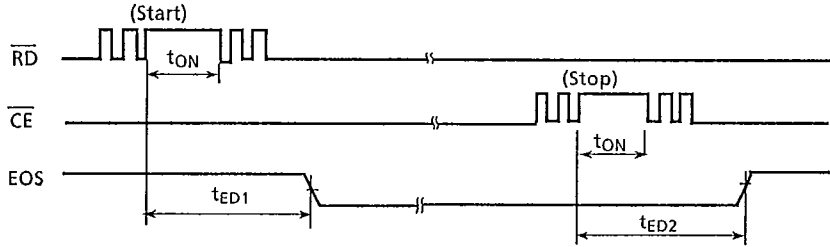

Fig.5.10 Timing of EOS at manual control
As shown in Fig. 5.10, ①using \overline{RD} pulse, read status from TC8832F and check BUSY flag ②If not busy state, after setting up command in D0~D3, write a command using \overline{WR} pulse. In case of such 3 nibble commands as LABEL, ③after rechecking BUSY flag by \overline{RD} pulse, ④write the 2'nd and 3'rd nibbles.